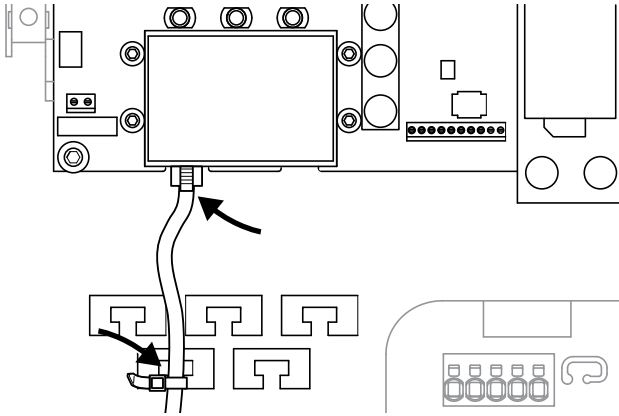

Fig. 42: Fasten the cable to the cable tray
1. Properly fasten all cables to the cable tray with a cable tie. **Fig. 42**